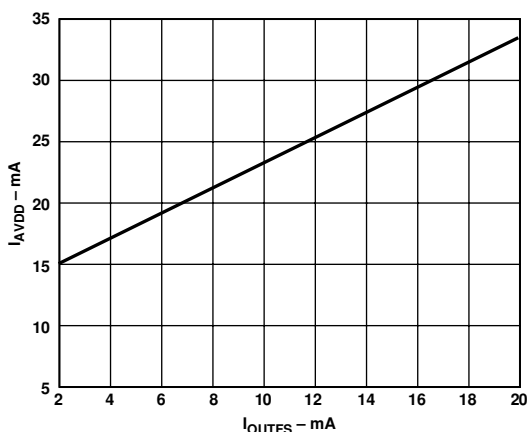

Figure 25. I_{AVDD} vs. I_{OUTFS}
The power dissipation, P_D , of the AD9750 is dependent on several factors which include: (1) AVDD and DVDD, the power supply voltages; (2) I_{OUTFS} , the full-scale current output; (3) f_{CLOCK} , the update rate; (4) and the reconstructed digital input waveform. The power dissipation is directly proportional to the analog supply current, I_{AVDD} , and the digital supply current, I_{DVDD} . I_{AVDD} is directly proportional to I_{OUTFS} as shown in Figure 25 and is insensitive to f_{CLOCK} .